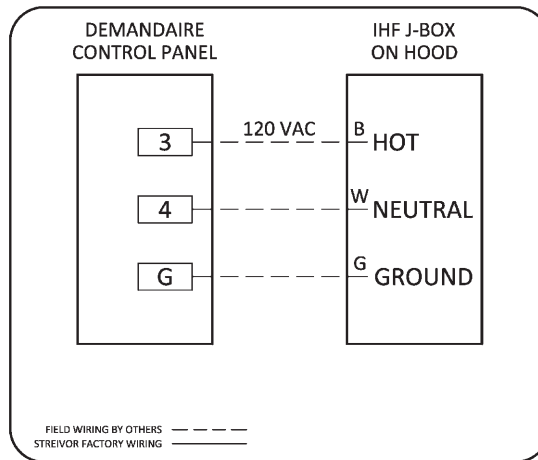

FIGURE 7: Internal Hood Fan Power Circuit Wiring
- Connect 120 VAC single phase power from terminal block 3 (hot), terminal block 4 (neutral), and ground in the control panel to the wires labeled “IHF” in the junction box on each hood (*Figure 7*).